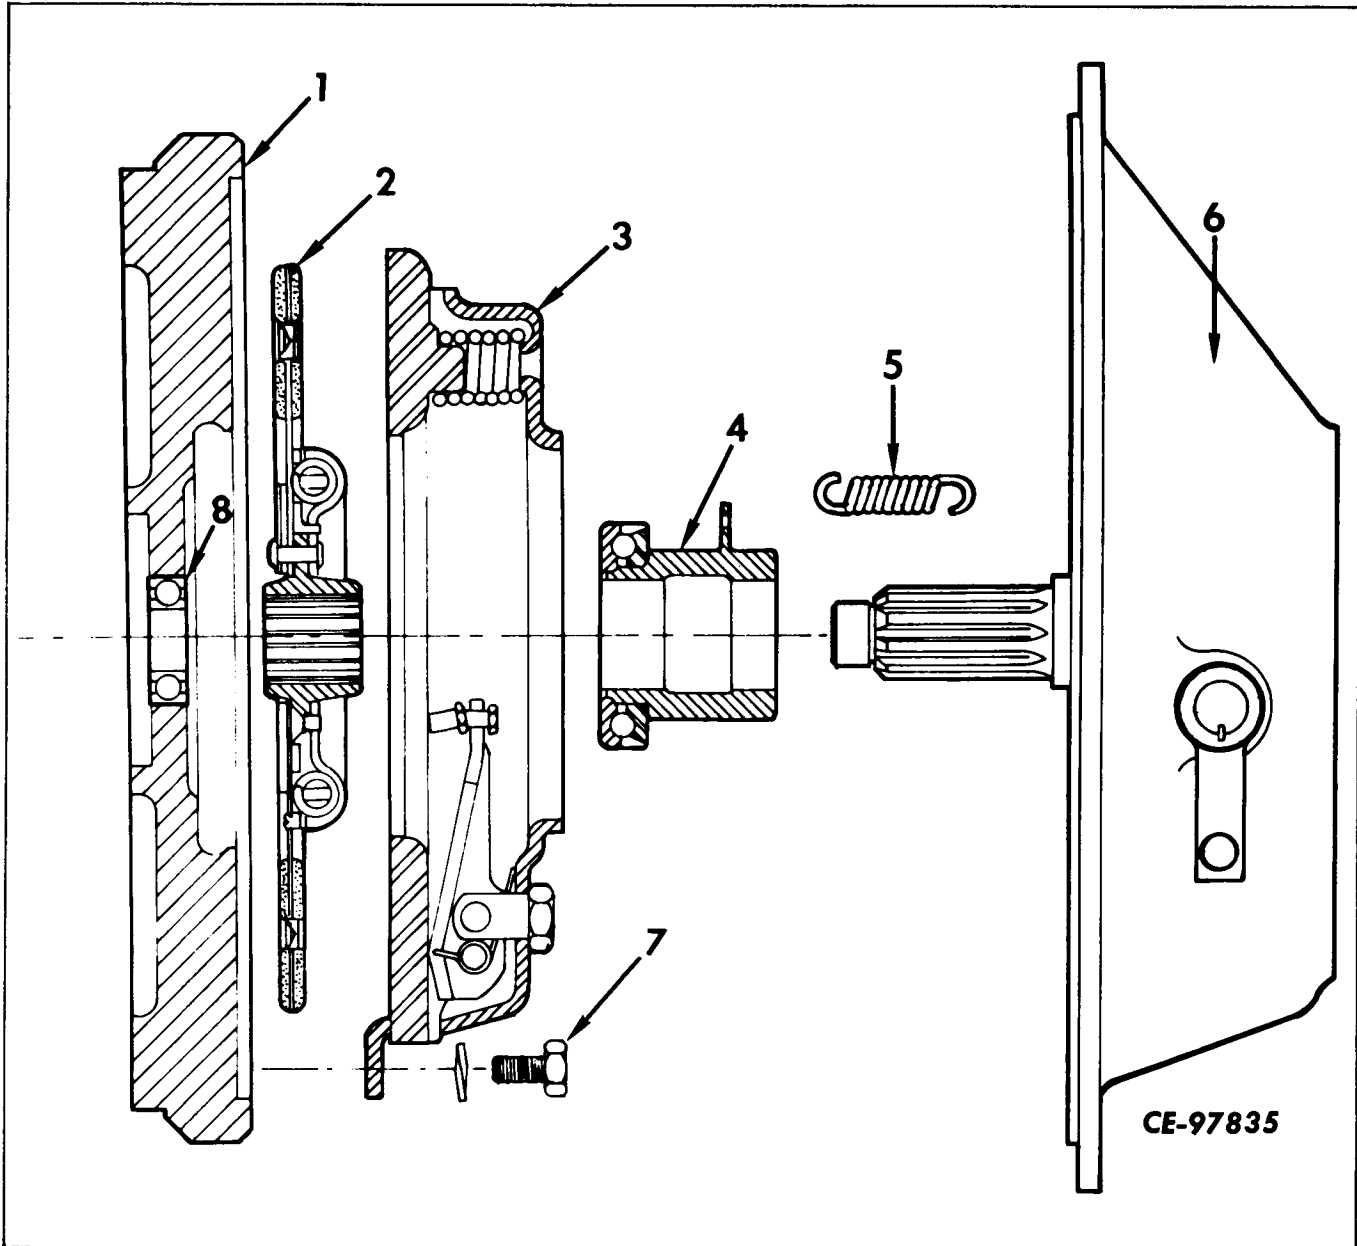

Figure 4-9
The clutch plate (2, Fig. 4-9) is mounted between the flywheel and the cover assembly (3). When the clutch pedal is depressed the throw-out bearing (4) is forced against three levers in the cover assembly, releasing tension between
Install driver plate (2, Fig. 4-9) and clutch cover assembly (3) to flywheel (1). If only the clutch plate was serviced, install clutch cover assembly matching identification marks made during disassembly.